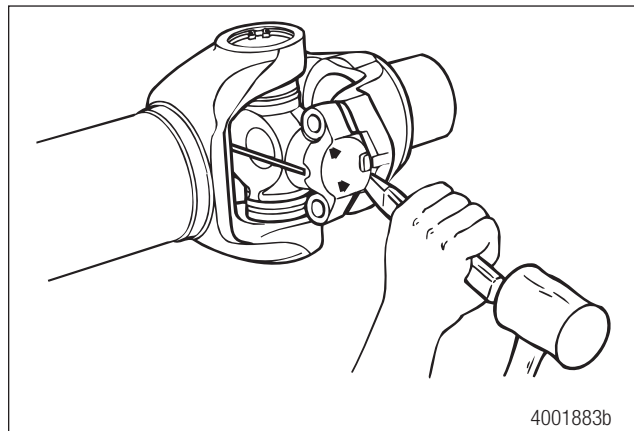

Figure 5.27
4. If necessary, use an appropriate tool to tap the wing bushing from the end yoke. Figure 5.27.